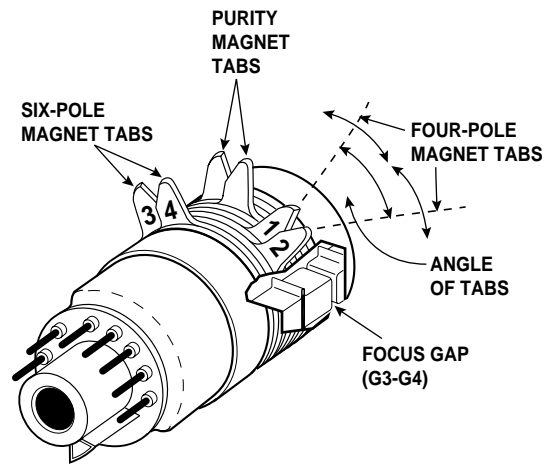

Figure 2. Purity and Convergence Magnets
2. Place the yoke on tube neck fully forward against glass. Place the CPM on the tube neck aligning the center of the purity magnet tabs (2 pole) over center of Focus Gap (G3 & G4). See Figure 2.
3. Adjust the angle between the four-pole magnet tabs 1 and 2 (Figure 2), and superimpose the red and blue vertical lines in the center area of the picture screen. See Figure 4.